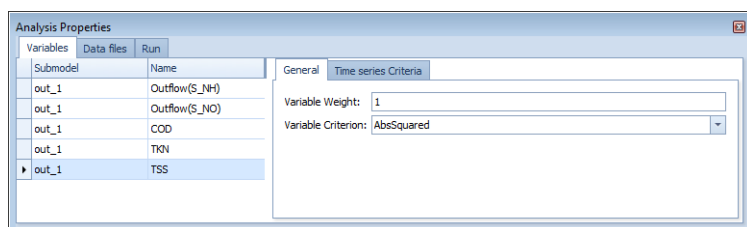

Figure 7.6 Analysis Properties dialogue and objective variables to be evaluated
- In the Block Details pane, select the variables COD, TKN, TSS, Outflow(S\_NO) and Outflow(S\_NH); drag and drop the selection to the Analysis Properties dialogue (Figure 7.6).